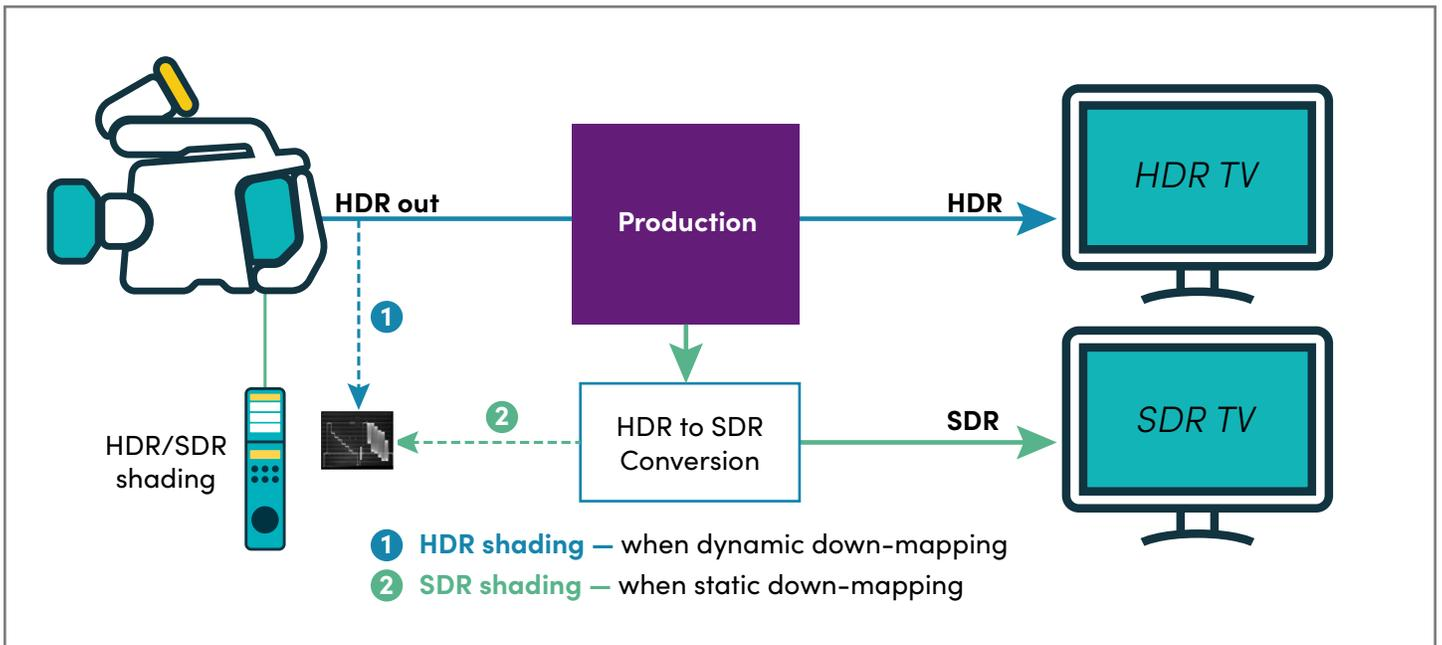

Figure 14 — Optimum camera shading depending on the HDR/SDR downmapper.
- + Depending on the downmapping, shading needs to be done on HDR or SDR (see Figure 14).